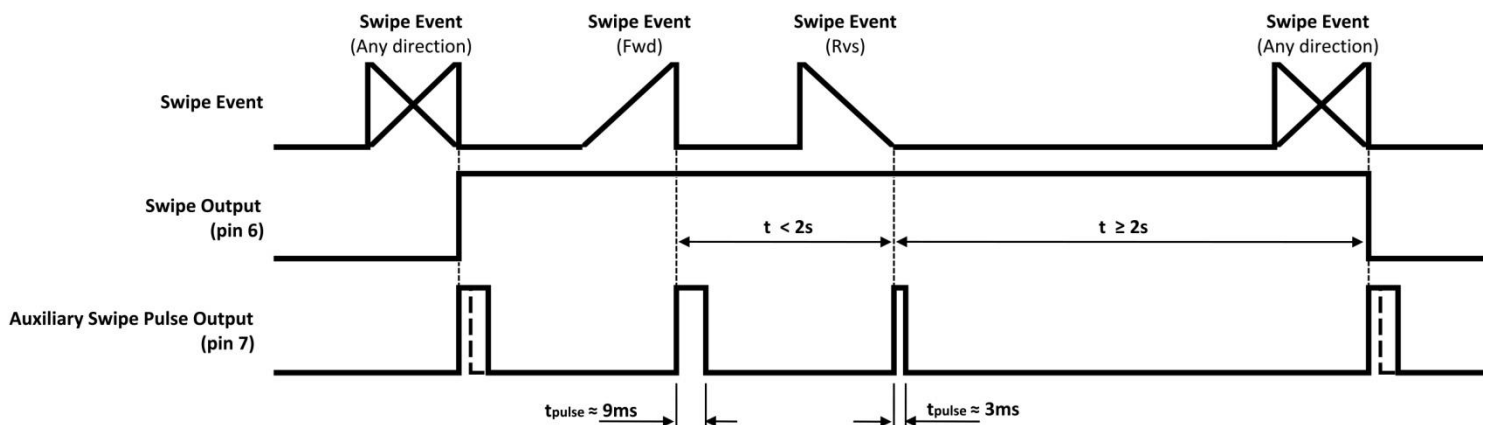

Figure 5.2 : IQS213A Setup example 2
Example 2 (see **Figure 5.2**) illustrates the user interface (UI) and device outputs for a **3-Channel Projected Capacitive SwipeSwitch** (output on pin 6), in an active high configuration with the Bi-Directional UI and Auxiliary **Swipe Pulse** Output on pin 7.